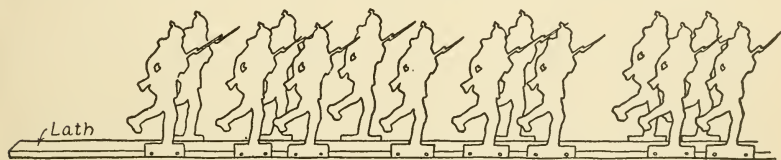

FIG. 345. — Scheme for Marching Soldiers.
a lath as shown in Fig. 345, and then slide the lath across the stage, at the same time pushing out one of the laths forming the floor. The moving of the laths scarcely will be noticeable from the position of your audience.
**Trains and Wagons** can be cut out of cardboard and moved across the stage by means of laths to which they have been attached in the same manner as the paper soldiers shown in Fig. 345. Toy wagons, carriages, and an automobile such as described in Chapter XXVI, may also be used in some scenes.